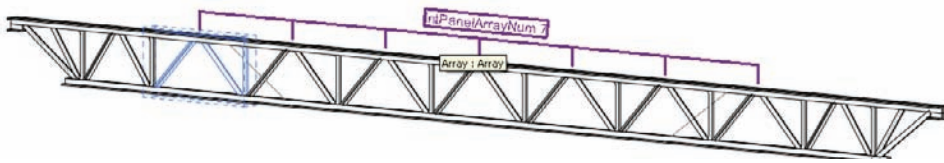

Figure 17.39
**File Size** Smaller is better. Most of the stock content varies from between 100 and 300 KB (as shown in Figure 17.38). Structural steel families are a bit bigger, but most of them also include a bit more complexity. The LH-Series Bar Joist family is a little more than 550 KB, but it has a nested family and uses an array to create the cross braces (as shown in Figure 17.39).